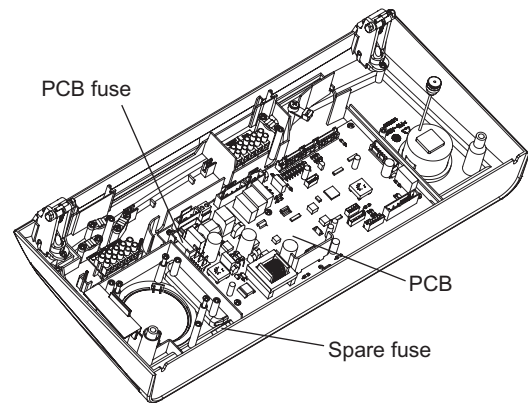

Fig. 7.2
### 7.10 FUSE - Fig. 7.2
**Note:** A spare fuse is supplied, as shown in Fig. 7.2.
### 7.11 PCB - Fig. 7.2